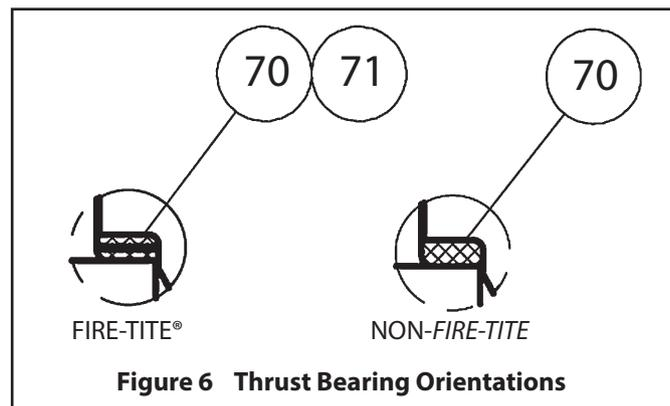

Figure 6 Thrust Bearing Orientations
6. From inside the body (1), insert the one thrust bearing (70), the secondary stem seal (71), and the second thrust bearing (70) into the stem bore (see **Figure 6**).